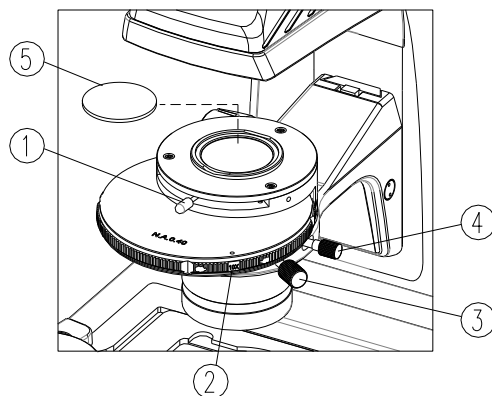

Fig.6 Adjustment of Aperture Diaphragm and Placement Of filter
3.1.2 Aperture Diaphragm (Fig.6)
- c. Adjust centring screw ③ (Fig.6) to make field diaphragm coincide with field , fasten the thumb screw ④ (Fig.6),adjust field diaphragm to make image edge
3.1.4 Usage of Filter (Fig.6)
- a. Take out the filter ⑤.
- b. Place the filter ⑤ into the hole which above turnable phase contrast condenser.